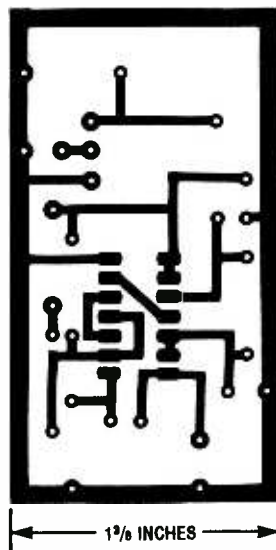

Fig. 2. The author's prototype unit was built on a printed-circuit board measuring 1½ by 2½ inches.
The ribbon cable was attached to the board using individual wire-wrap pins soldered to the ends of the wires. The pins are arranged on the board in the pattern that you would see them on the DB-25 connector that’s crimped on the free end of the cable; that makes wiring the board a little easier. You can see from Fig. 2, that pins 14–17 are not used, so they are simply cut off the cable after entering the cabinet. You’ll
**Construction.** The author's prototype of the trigger-delay circuit was built on a printed-circuit board (see Fig. 2) measuring 1½ by 2½ inches. After etching your circuit board, install the components using Fig. 3 as a guide. Be careful when handling U1. It's a CMOS device and can be damaged by static discharges. Also, when installing C1 and C2, be sure to observe the proper polarity.